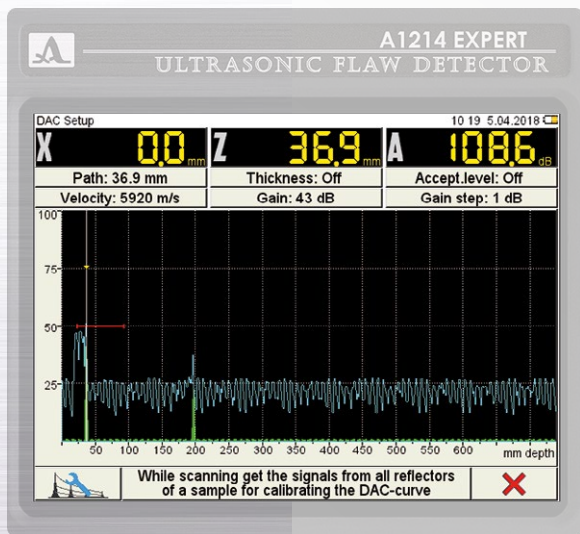

Figure 26
- press the **⚙** key, at that the first anchor point will appear on the peak value of the signal (Figure 26);